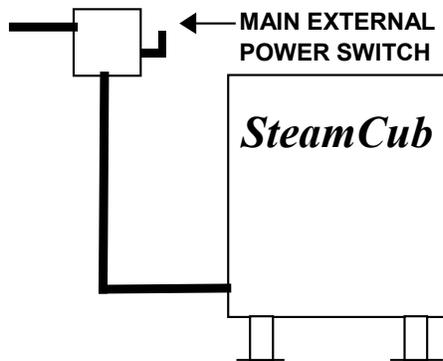

Figure 3-6
1. Install a main disconnect switch and a separate fuse or breaker for this appliance as shown in Figure 3-6.